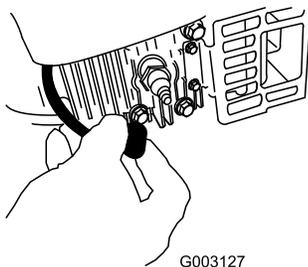

Figure 43
2. Disconnect the spark plug wire from the spark plug (Figure 43) before performing any maintenance procedure.